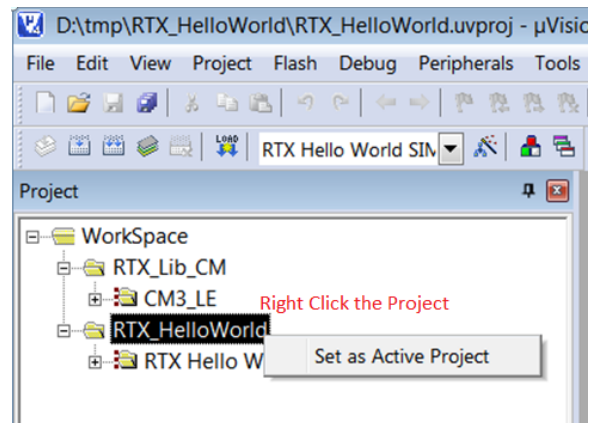

Figure 1.25: Keil IDE: Set an Active Project
1. Activate the RTX\_HelloWorld project by highlighting the project name and right click. Then click the Set as Active Project (see Figure 1.25).